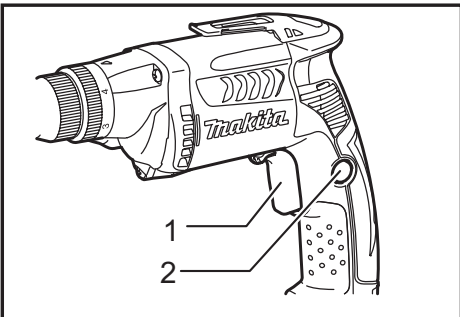

Fig.4
- Fig.4: 1. Switch trigger 2. Lock button